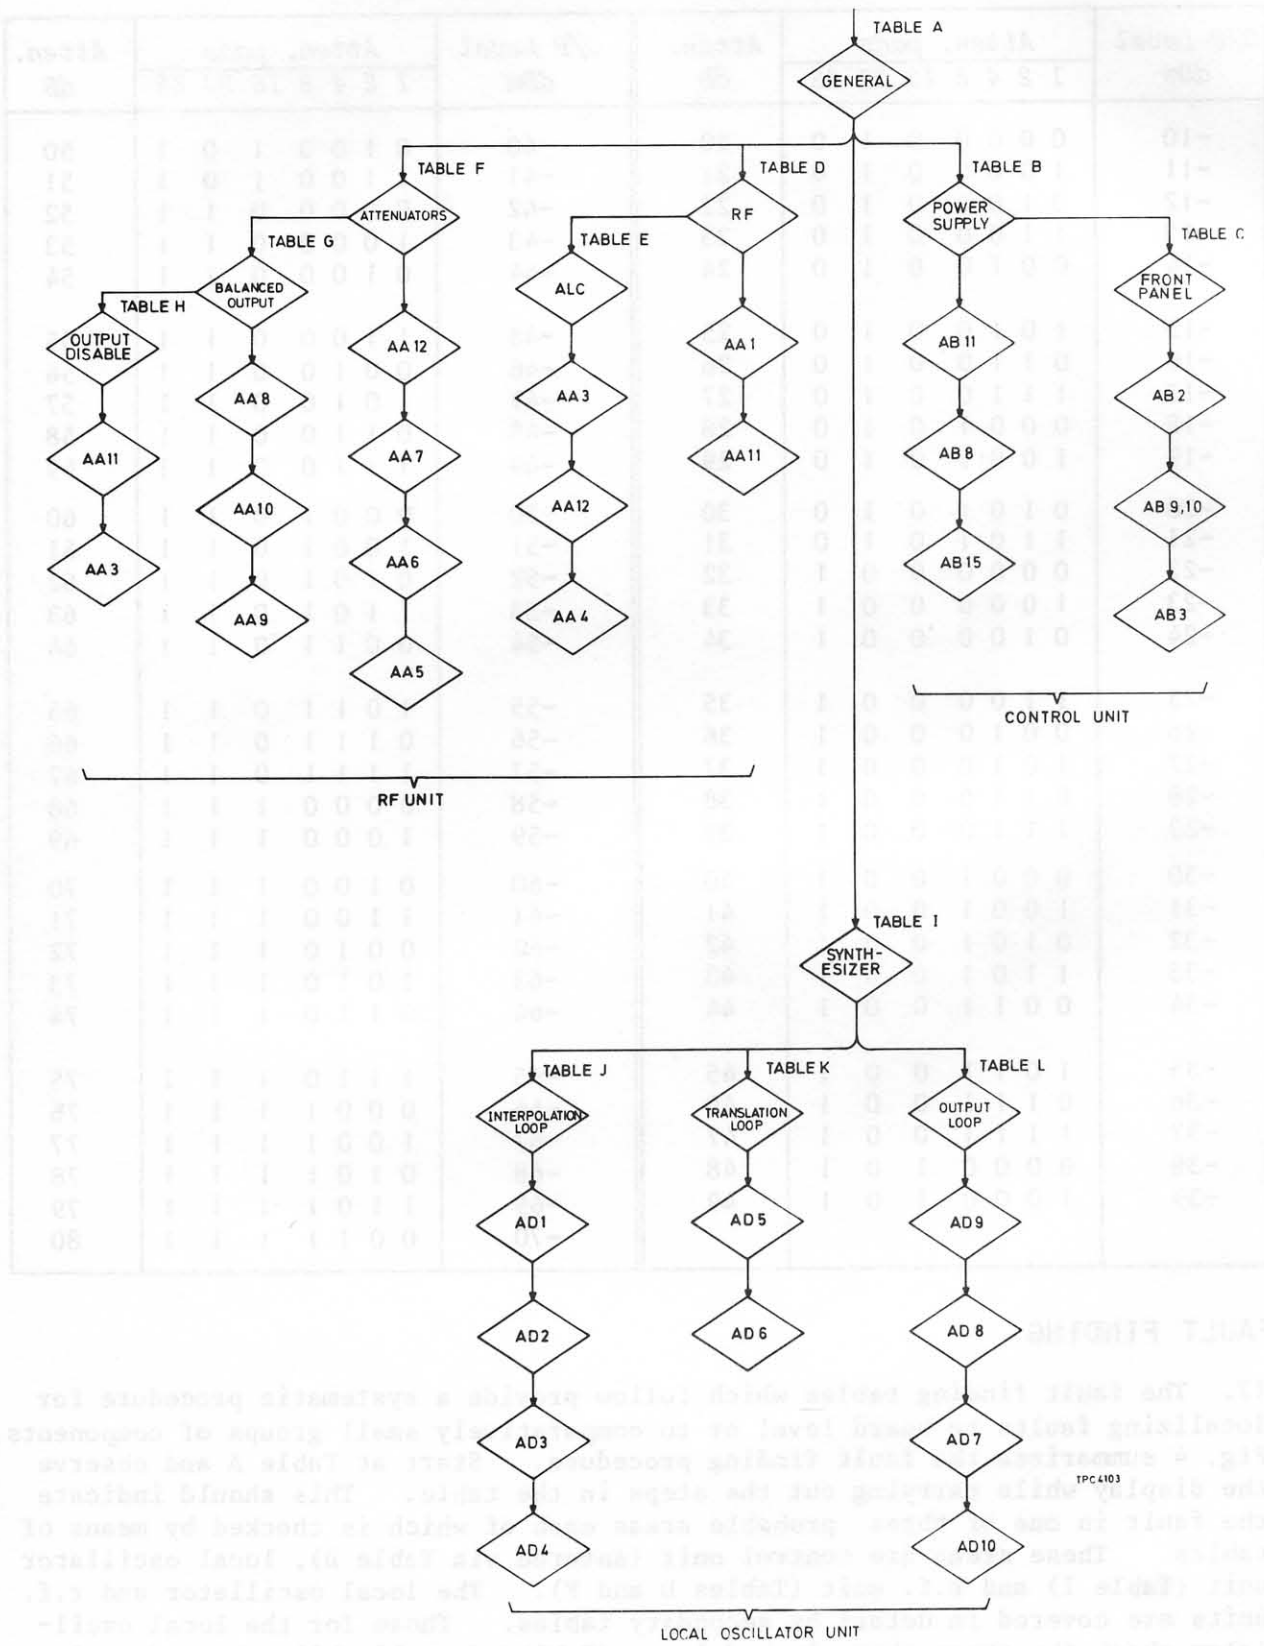

Fig. 4 Fault finding procedure summary
17. The fault finding tables which follow provide a systematic procedure for localizing faults to board level or to comparatively small groups of components. Fig. 4 summarizes the fault finding procedure. Start at Table A and observe the display while carrying out the steps in the table. This should indicate the fault in one of three probable areas each of which is checked by means of tables. These areas are control unit (entered via Table B), local oscillator unit (Table I) and r.f. unit (Tables D and F). The local oscillator and r.f. units are covered in detail by secondary tables. Those for the local oscillator check the three phase locked loops (Tables J to L) while the r.f. unit tables check the signal source and attenuators and work towards the output (Tables D to H). Following this procedure the fault may be traced to component level using the board checks detailed under 'Board Testing'.